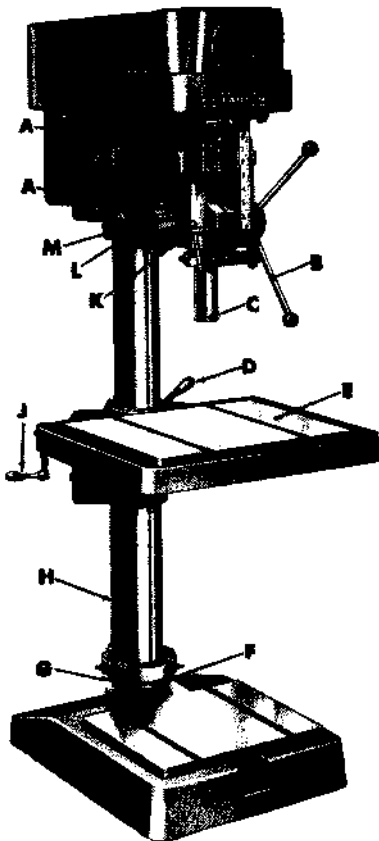

Figure 1
1. Loosen table lock (D, fig. 1).
2. With lift crank (J), raise the table (E) to bottom of spindle (C). (*Place block of wood between spindle and table.*)
3. Lock table *securely* with handle (D).
4. Loosen two head lock nuts (A) and quill lock (K).
5. Lift head by turning feed handle (B) counter-clockwise. While holding handle, tighten head lock nuts (A).
6. Slide safety collar (M) up to bottom of head. Tighten screws (L) in collar.
7. Lock table with handle (D, fig. 1).
8. Loosen two screws (G) in rack collar (F).
9. Turn crank (J), raising rack (H) to bottom of collar (M).
10. Securely tighten two screws (G) in rack collar.